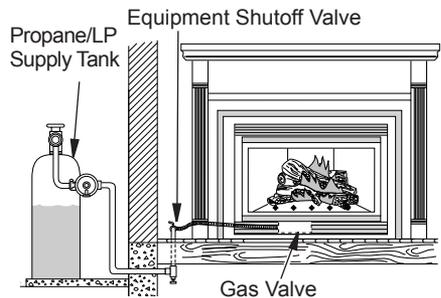
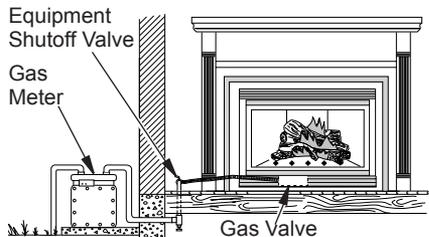

Figure 54 - Checking Gas Joints for Propane/LP Gas Fireplace
Figure 55 - Checking Gas Joints for Natural Gas Fireplace
3. Check all joints from propane/LP supply tank or gas meter to equipment shutoff valve (see Figure 54 or Figure 55). Apply noncorrosive leak detection fluid to all joints. Bubbles forming show a leak. Retighten all fittings.
4. Check all joints from equipment shutoff valve to gas valve (see Figure 54 or Figure 55 on page 29). Apply noncorrosive leak detection fluid to all joints. Bubbles forming show a leak. Retighten all fittings